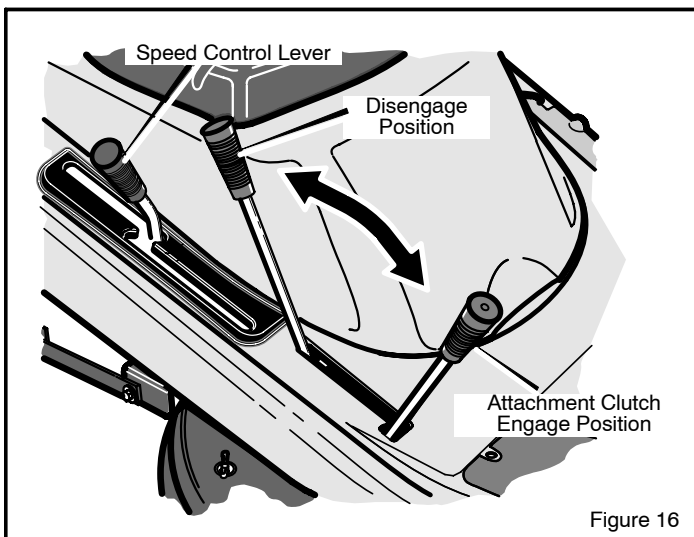

Figure 16
2. Move the speed control lever to the neutral (N) position (see Figure 16).